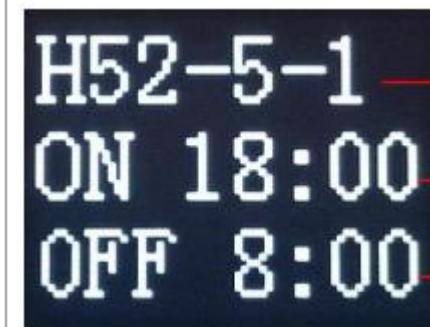

fig 1-6
Step 6: Hold “ \wedge ” again for at least 1.5 seconds to set the next program. Follow steps 1 to 5 again. (see fig 1-6)